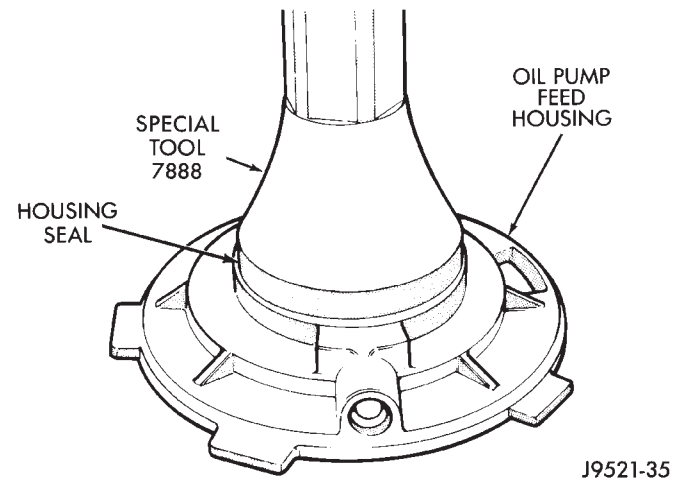

Fig. 64 Oil Pump Seal Installation
(1) Install new seal in oil pump feed housing with Special Tool 7888 (Fig. 64).